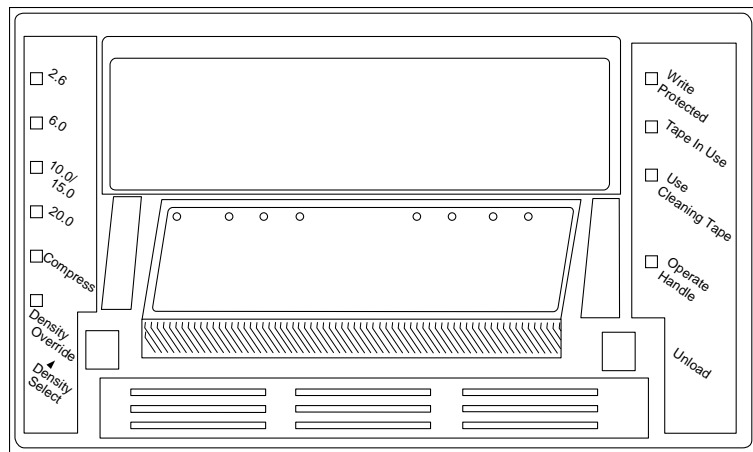

Figure 3-1 DLT4000 Front Panel
The tape drive has seven left front panel LEDs (Figure 3-1). The LEDs are described in Table 3-1.
The tape drive has four right front panel LEDs (Figure 3-1). The LEDs are described in Table 3-2.
1. **Make sure that the Operate Handle LED is on (Figure 3-1).**